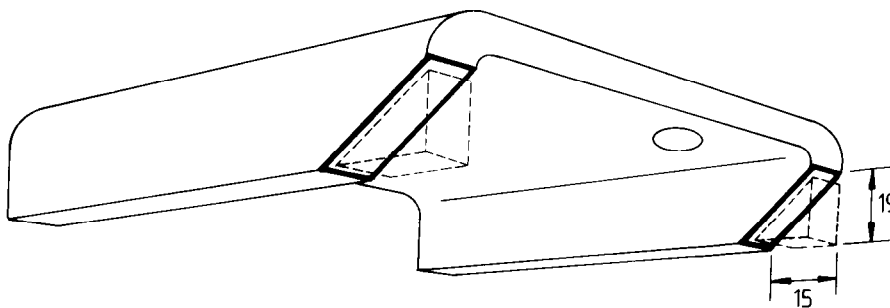
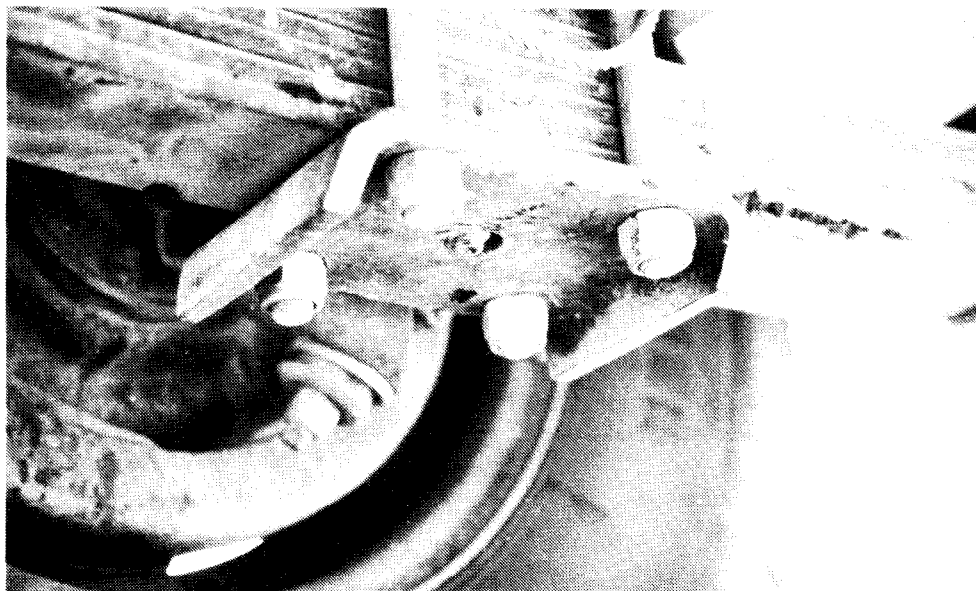

FIG 1 - DIMENSIONS OF REWORK REQUIRED
FIG 2 - COMPLETED MODIFICATION
- e. Using a wheel type grinder, (disc type grinder can be used in lieu) grind the two corners of each 'U' bolt plate which interface with the rebound straps to the dimensions shown at Fig 1. A modified 'U' bolt plate is shown at Fig 2.